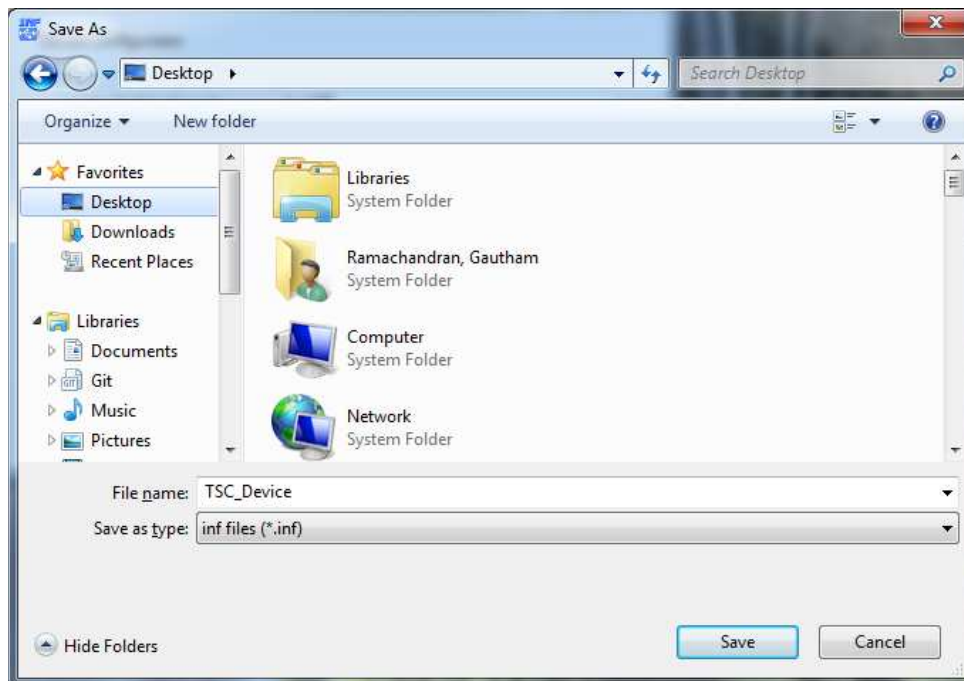

Figure 9. Inf-Wizard File Save Prompt
- (h) Select a location on the local hard disk and click **Save**, as shown in Figure 9.